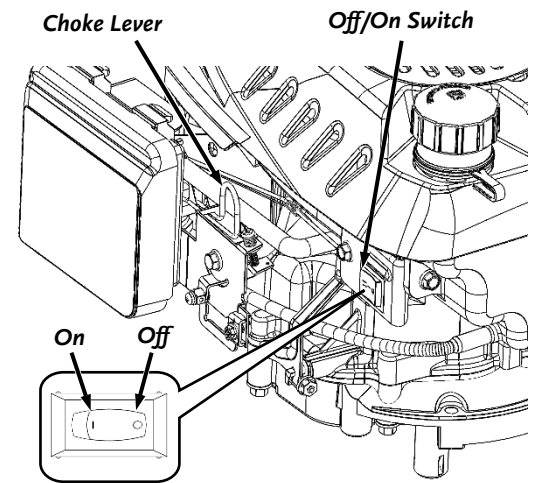

Figure 7
- 1) Press the Engine Off/On switch to the “ON” position (**Figure 7**).
- 1) Press the Engine Off/On switch to the “Off” position (**Figure 7**).